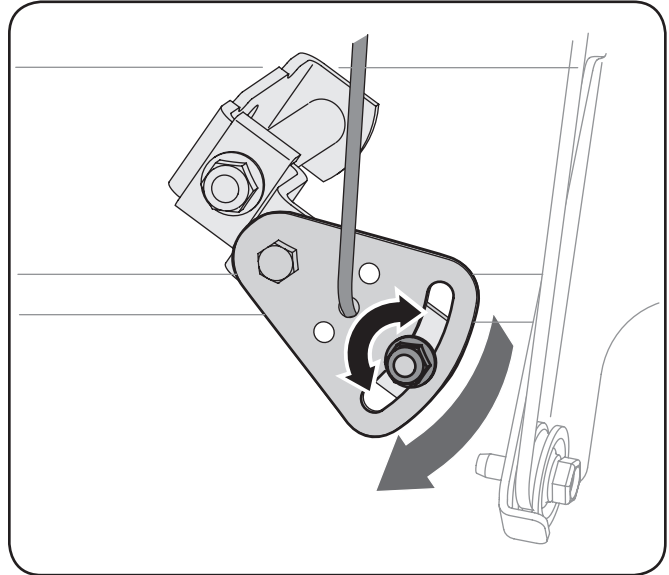

Figure 6-5
2. Loosen the hex nut on the shift cable index bracket. See Fig. 6-5.